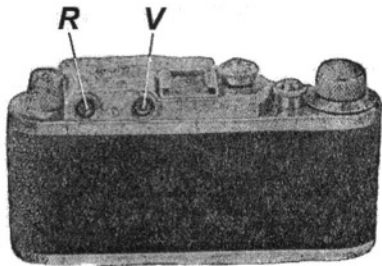

Fig. 12
5. Focus the lens, using the rangefinder by sighting through its eyepiece "R" (fig. 12)
6. Compose the shot by looking through the viewfinder eyepiece "V" (fig 12).
1. Hold the camera as shown in figs. 13 and 14. Point the camera towards the subject and sight it through the left eyepiece "R" (fig. 12).